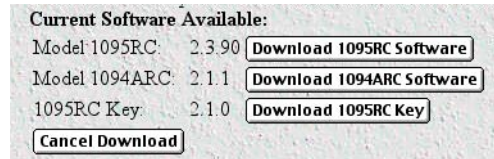

Figure 38. Download 1094ARC software button
- Click on the **Download 1094ARC Software** button (see figure 38).